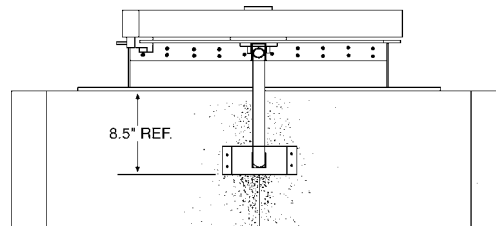
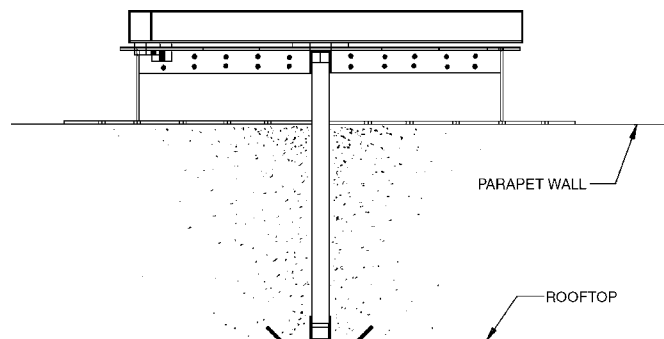

Figure 1. ST1 Strut Installation
Figure 3. Installation of Modified Strut
6. Attach corner wall bracket to opposite end of ST1; place at corner of parapet walls below corner mount (refer to Figures 1 and 2) and mark the drill hole pattern through the four mounting holes. If parapet is too shallow for strut, cut down the strut pipe to the desired length and attach to rooftop as shown in Figure 3. The fasteners used to anchor the strut corner plate to the roof top will also be used to attach the strut bracket.